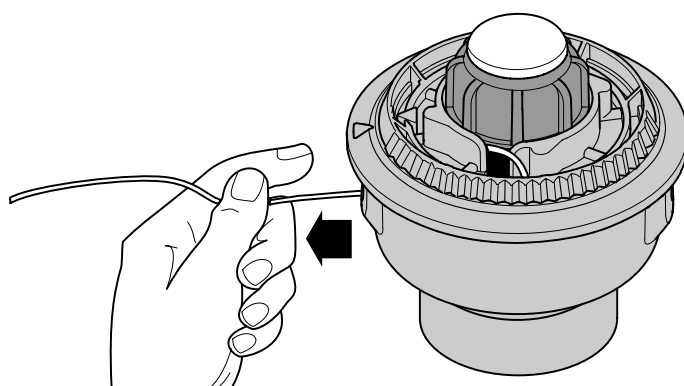

Fig. 49
6. Pull the line from the outer spool until the line is tight against the inner reel (Fig. 49).